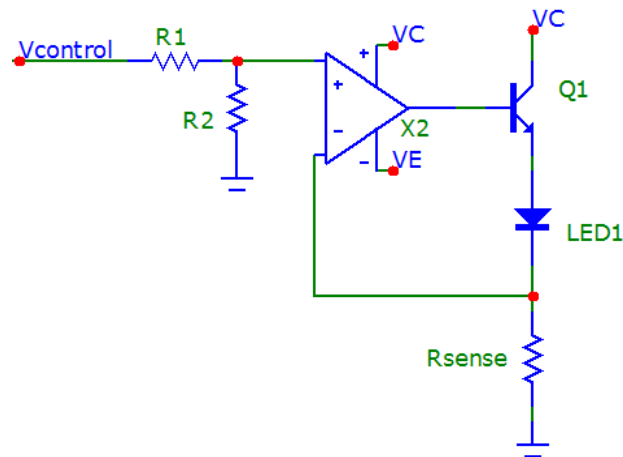

Figure 2. LED driver circuit.
Figure 2 shows a particular implementation of the LED driver with a 2N3904 NPN BJT (Q1) used in an emitter-follower configuration. The operation of the circuit is straight forward. The positive terminal of the op-amp is connected to the control voltage through a resistor divider; the negative terminal is connected to the feedback loop which includes the LED. When a positive voltage is applied to the positive input terminal, the op-amp will output a voltage to turn on the transistor. The emitter current of the transistor will flow through the LED and the resistor, R_{sense} . The feedback loop is designed so that the voltage drop across the resistor R_{sense} is linearly proportional to the control voltage. The resistive voltage divider formed by R_1 and R_2 is for reducing the 5V-peak control voltage to a level such that the peak current flowing through the sense resistor R_{sense} will be the required current needed to drive the LED. The transistor can source the current levels required to drive the LED.
1. **LED Driver Design:** Design the LED driver based on the circuit shown in figure 2. Assume the input signal is a 5V square wave with a 50% duty cycle at 20 kHz. Choose R_{sense} , R_1 and R_2 to ensure the required current through the LED.